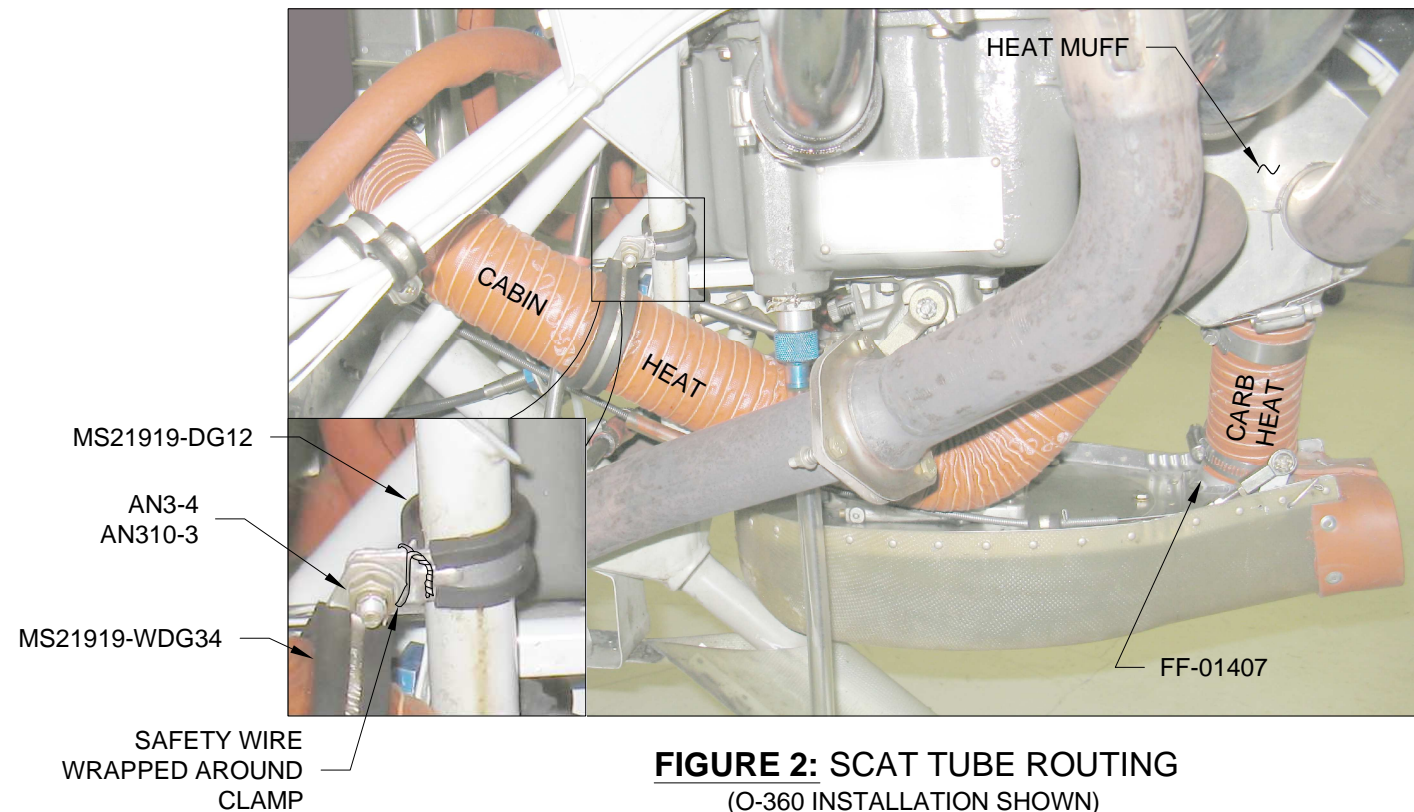
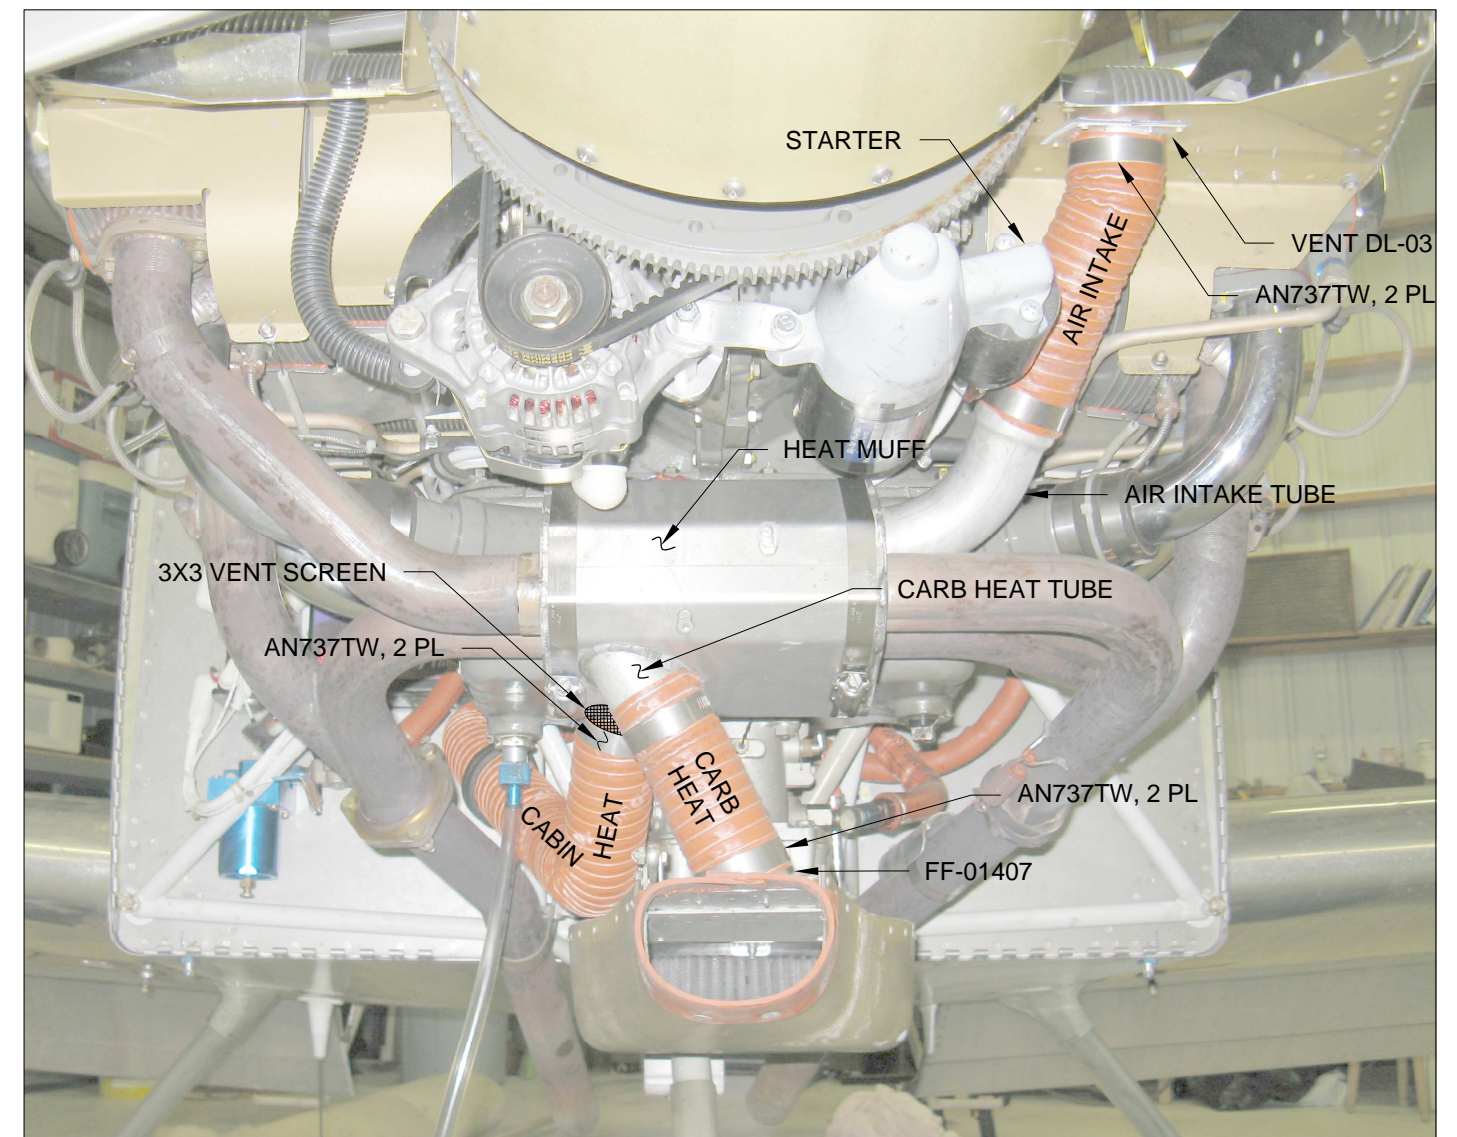

FIGURE 2: SCAT TUBE ROUTING
FIGURE 3: SCAT TUBE ROUTING
WARNING: For proper carb heat performance, a vent screen must be installed over the cabin heat tube at the location shown in Figure 3.
Step 4: (If using carb heat) Form the VENT SCREEN 3X3 over the end of the cabin heat tube coming from the Heat Muff Assembly. See Figure 3 for location.
Step 5: Cut lengths of scat tubing to connect the VENT DL-03 Scat Tube Flange to the heat muff air intake tube; the FF-01407 FAB Carb Heat Inlet to the heat muff carb heat tube; and the heat muff cabin heat tube to the VENT TG-10 Assembly installed on the firewall in OP-29 or OP-33. See Figure 2 and Figure 3.
Step 6: Secure the Scat Tubes as shown in Figure 2 and Figure 3. Use additional tie-wraps and clamps as necessary to ensure the scat tubes do not interfere with the oil sump drain, exhaust tube, engine mount or any other components.